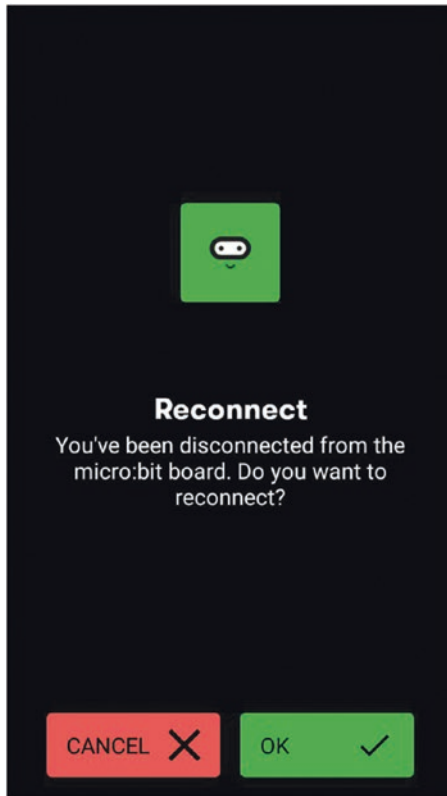

Figure B-19. *The Reconnect screen*
9. If you want to reconnect the app to the micro:bit board, tap the OK button (see Figure B-19).